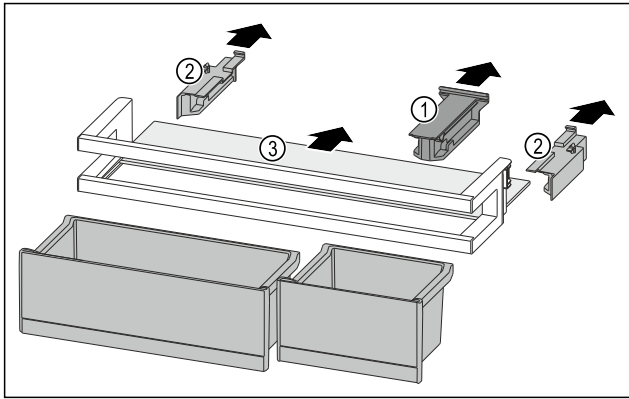

Fig. 260
- ▶ Pull off the holding part Fig. 260 (1).
- ▶ Pull off the side parts Fig. 260 (2).
- ▶ Remove the shelf Fig. 260 (3).